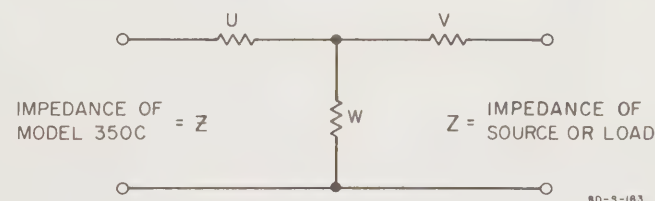
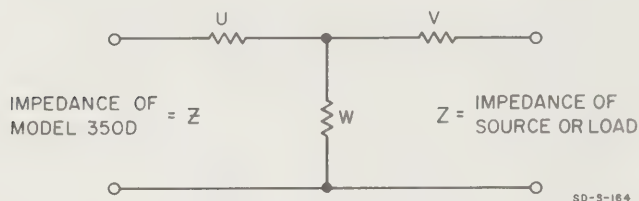

Figure 3-2. Model 350C Matching Network
Figure 3-3. Model 350D Matching Network
b. Except for the condition stated in a., a resistive impedance-matching network should be used. Resistors should be deposited film or carbon type. Also, better accuracy is obtained if the network is enclosed in a shielded container and connecting leads are kept short. Data on impedance-matching networks for the Model 350C are given in Figure 3-2 and Table 3-2; data for the Model 350D are given in Figure 3-3 and Table 3-3. The amount of insertion loss is included in Tables 3-2 and 3-3.
c. Networks may be used which provide the Model 350C/D and its load with an impedance match. Network data and connections are given in figures 3-2 and 3-3 and tables 3-2 and 3-3. Figure 3-1C shows a network for matching a 200-ohm load and the 600-ohm Model 350D; figure 3-1D shows a network for matching a 500-ohm load and the 600-ohm Model 350D.